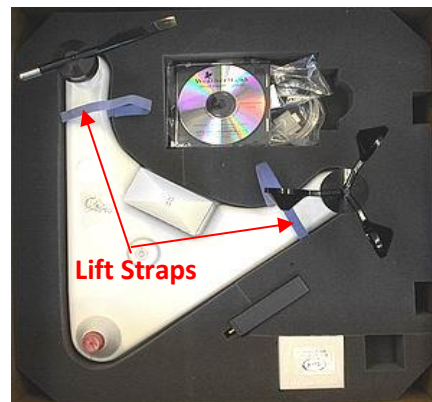

Figure 1: Box of standard and wireless equipment. The lift straps allow easy removal of the WeatherHawk from the box.
The ideal WeatherHawk site is level and well away from obstructions such as buildings, trees, and steep slopes. If obstructions exist, use the “Ten Times the Height Rule”, which is illustrated in Figure 1.
Figure 1: Ten Times the Height Rule. If the height of the tree, T, is 13 feet and the height of the shed, H, is 12 feet, then the WeatherHawk station should be placed at least 130 feet from the tree and at least 120 feet from the shed.
The WeatherHawk needs to be 4 -8 feet (1.25 – 2.5 m) above the roof peak, which requires one or two extensions (TP1-MX) and a guy-wire kit (TP1-GK) when using the TP1 tripod and two extensions. If your roof has a chimney or is flat with decorative trim, or has nearby trees taller than the house, follow the “Ten Times the Height Rule” described in Figure 1.
- a. Use the lift straps to remove the WeatherHawk station, since removing the station by lifting on the sensors may damage the sensors (see Figure 1).